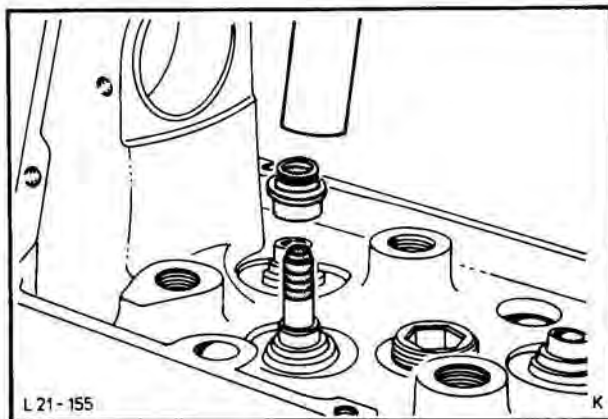

Fig. 166. Fit valve stem seals using Special Tool 21-007
24. Cover valve splines with adhesive foil and fit lubricated valve stem seals using Special Tool 21-007, Fig. 166.